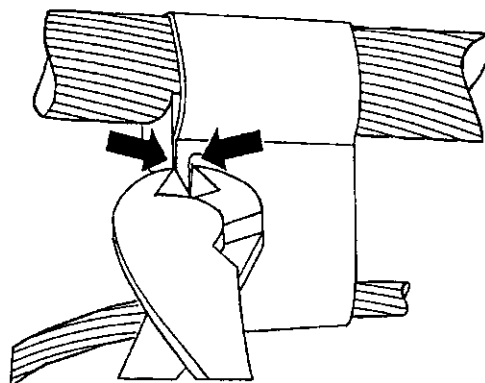

Figure 7 92-227A
1. Cut through material outside of inspection window on "C" member, as shown in Figure 7.